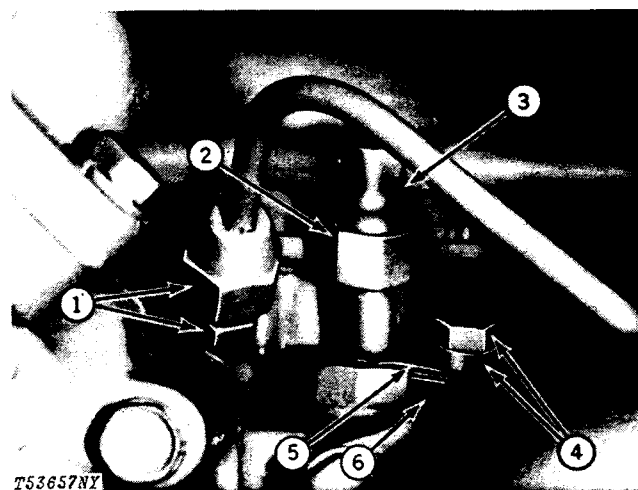

Fig. 34-Injection Nozzle Installation
Install spacer (6, Fig. 34), clamp (5), and cap screw and washer (4).